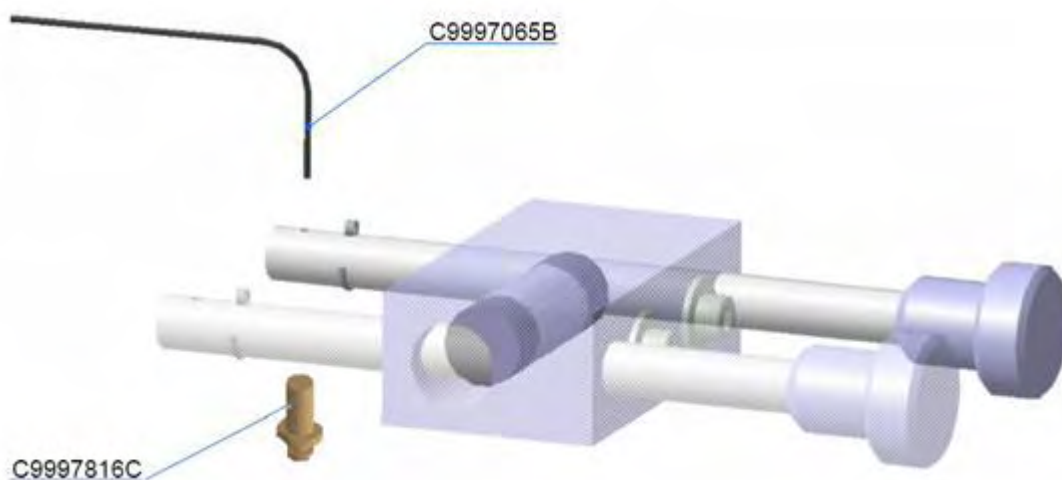

Fig. 1
-Release the cable C9997065B (Steel rope 7x7 1 mm) from C9997816C Cable stop 1806-Z ni. (Fig. 1).